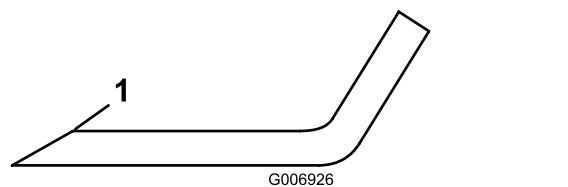

Figure 76
4. Inspect the cutting edges of all the blades. Sharpen the cutting edges if they are dull or nicked, sharpen only the top of the cutting edge, and maintain the original cutting angle to ensure sharpness (Figure 76).